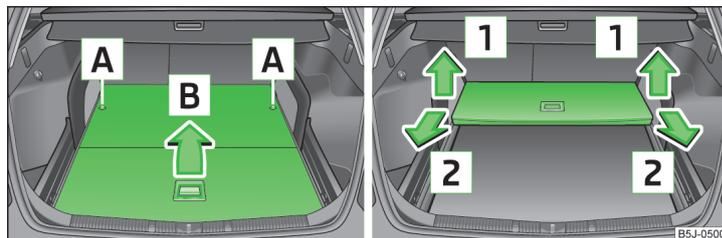

Fig. 68 Fold up variable loading floor/remove
- › Unlock the variable loading floor by turning the securing bolts **A** around 180° anticlockwise » Fig. 68.
- › Fold up the variable loading floor in the direction of the arrow **1** » Fig. 68 and remove by pulling in the direction of the arrow **2**.